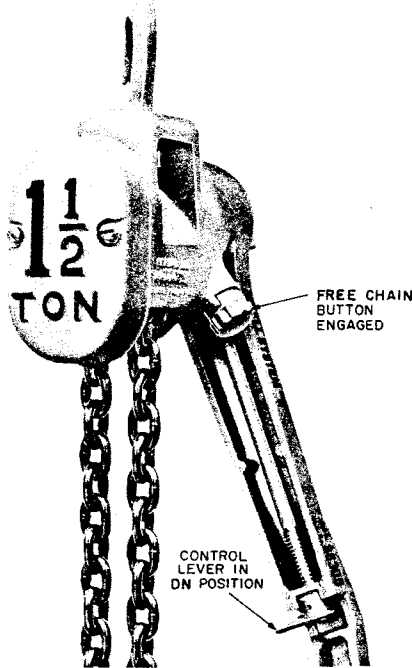

Fig. 5 — Control Lever and FREE CHAIN Button Positioned for Lowering Load
4.05 To lower the load (or release tension), be sure that FREE CHAIN button is engaged, then turn the control lever on the handle to DN and operate the handle (Fig. 5). In the DN position, the handle serves to release the brake, thus permitting infinite adjustments in lowering the load.